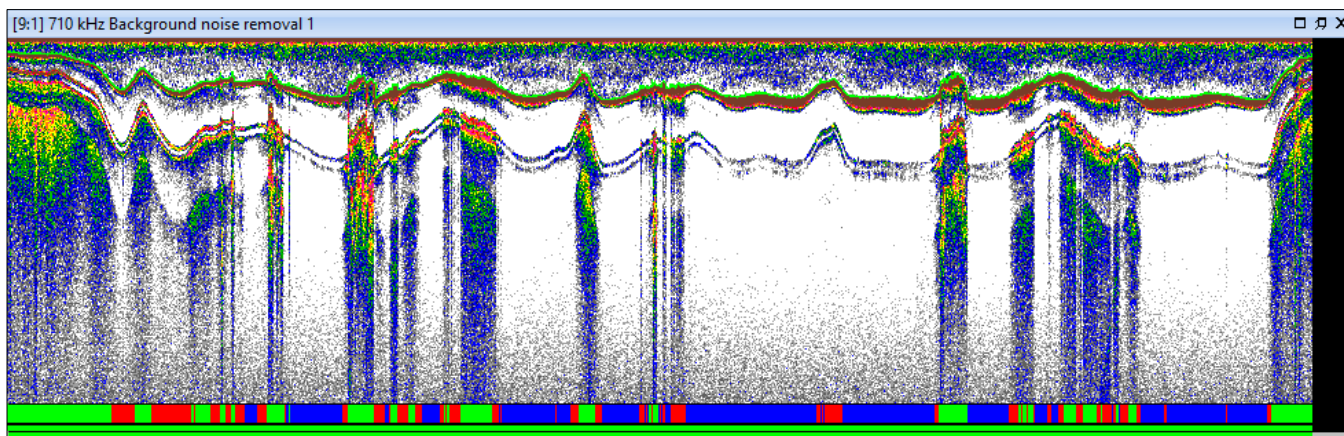

Figure 7. Echogram with bottom classification result integram shown along the bottom.
2. Review the integram for the **Background noise removal 1** echogram (Figure 7). As **Show bottom classification on integram** was selected on the **Classify Bottom** dialog box, the echogram displays the resulting bottom classification result class colors in the echogram integram area.